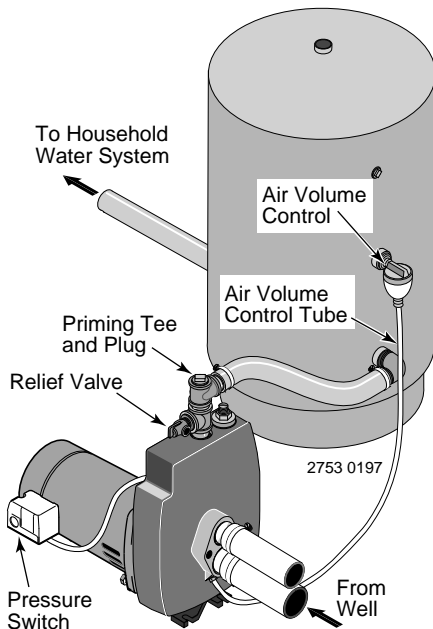

Figure 11: Standard Tank Connections
STANDARD TANK CONNECTION (Figure 11)
- Step 4. Remove the 1/8" NPT pipe plug from the pump Air Volume Control (AVC) port (see Figure 11). Run tubing from the pump's AVC port to the port on the AVC mounted on the tank. See instructions provided with tank and AVC for details.